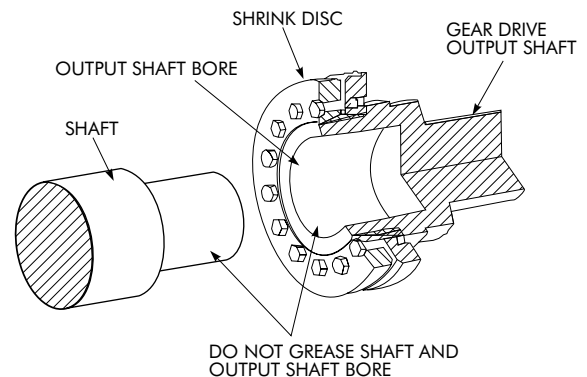

Figure 2.2b Placement of Shrink Disc onto Output Shaft
- c. Slide Shrink Disc over the output shaft. The outer surface of the output shaft can be greased. **NOTE:** The output shaft bore and the shaft that the speed reducer will be mounted to **SHOULD NOT** be greased. Reference Figure 2.2b.